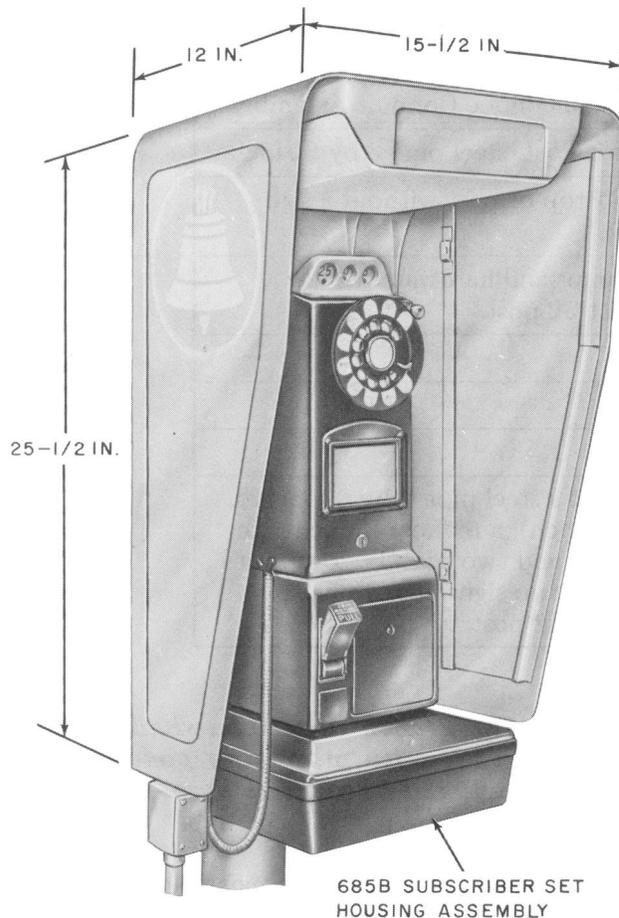

Fig. 1—KS-16705 Mounting With Coin Collector
2.01 The KS-16705 mounting is MD. This mounting is designed to provide for a walk-up or drive-up public coin telephone arrangement (Fig. 1).